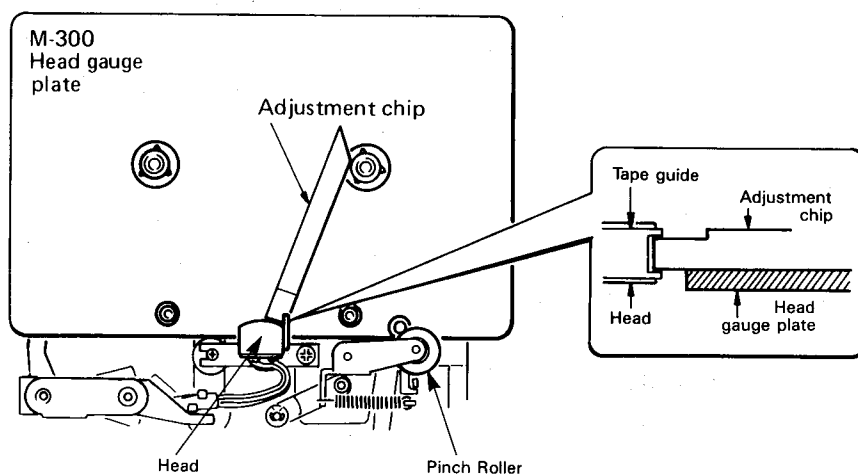

Fig. 2
② Head height confirmation
3. Check to make sure that the adjustment chip does not contact the tape guide of the head. (See Fig.2)